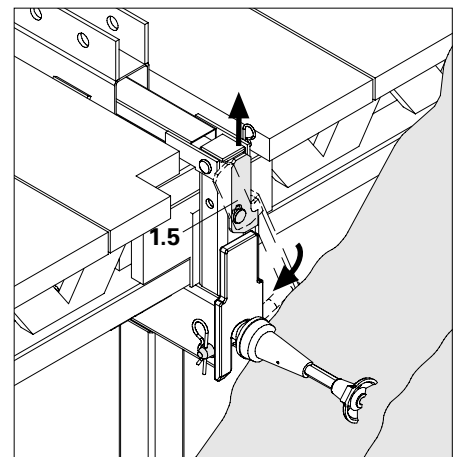

Fig. B4.07
2. Lift securing bolts (1.5) and pivot under the scaffold mounting ring (5.6) and secure with cotter pin. (Fig. B4.07)